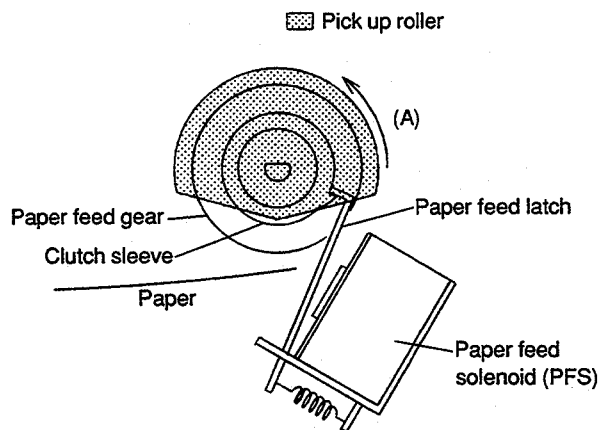
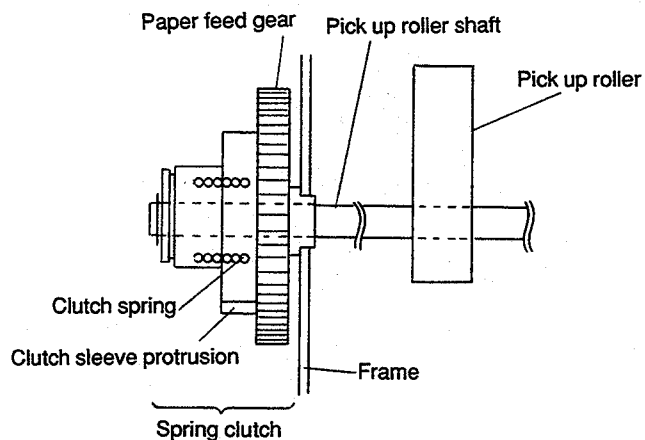

Fig. 7-2
Fig. 7-3
① Fig. 7-2 and Fig. 7-3 show positions of the pick up roller, the paper feed clutch sleeve, and the paper feed latch after the ready lamp lights.
Note: The paper feed drive gear is a one way clutch. Rotation of the paper feed drive gear is transmitted only in direction (A) shown in Fig. 7-2.
- ② When the print command is received, the main drive motor starts to operate each drive gear. The paper feed gear starts to be driven. The rotation of the gear is not conveyed to the paper feed roller shaft and therefore the paper feed roller does not rotate because the paper feed latch is holding the clutch sleeve protrusion.